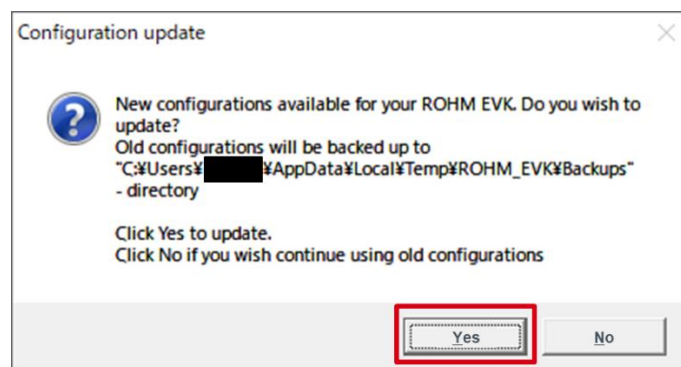

Figure 25. Configuration Updated Popup Window
- ◆ If Configuration update pop-up window is shown, click Yes to download the latest configurations from the server (Figure 25).